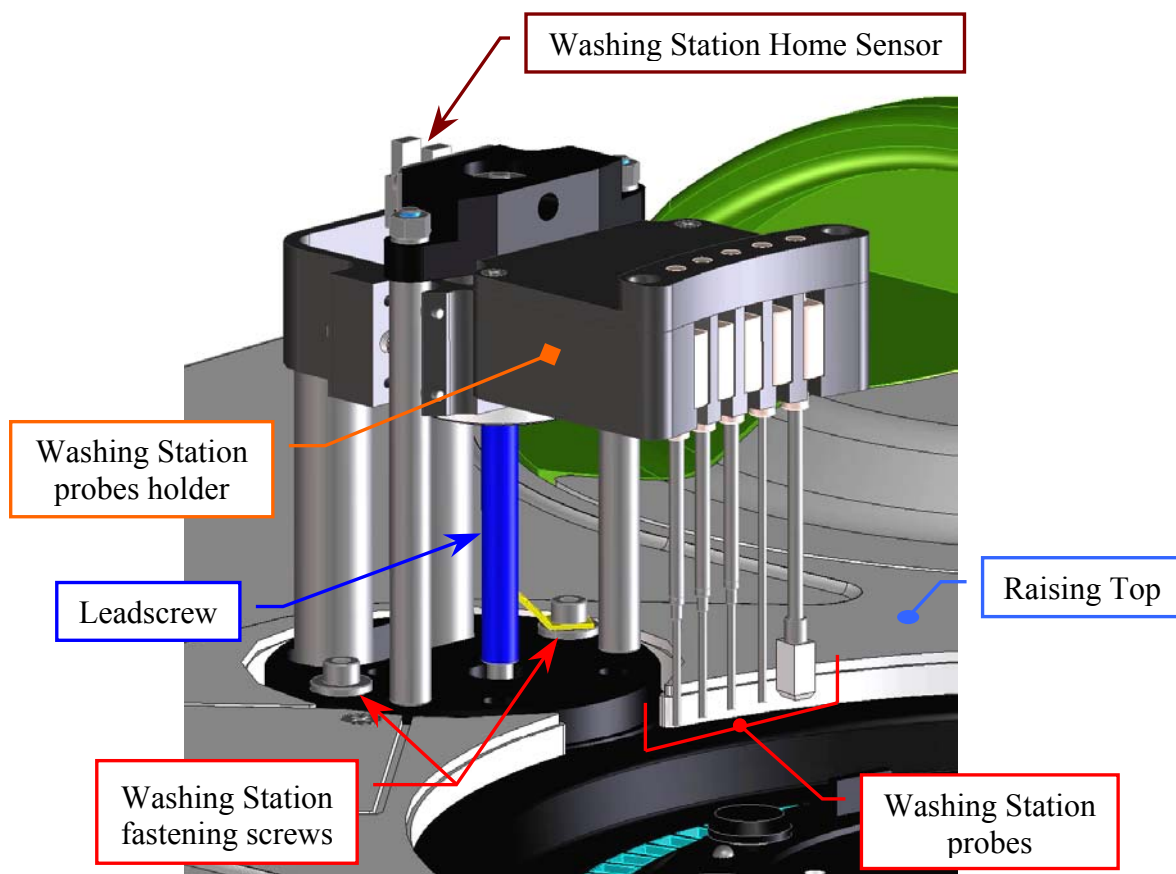

Fig. 117 – Fastening screws of the Washing Station
- a. loosen the two Washing Station fastening screws (**Fig. 117**);
- c. tighten the two Washing Station fastening screws (**Fig. 117**);
10. Unplug the ground wire from the Washing Station Assy, unscrew the two Washing Station fastening screws (**Fig. 117**) and take out the Washing Station Assy from its housing.